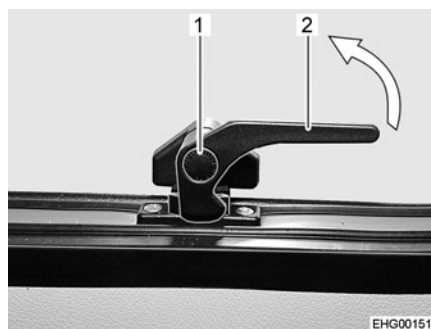

Fig. 24 Catch lever, at the bottom ("closed" position)
- Press and hold the safety knob (Fig. 24,1) on the bottom catch lever (Fig. 24,2).
- Turn the bottom catch lever (Fig. 24,2) a quarter turn towards the centre of the window.